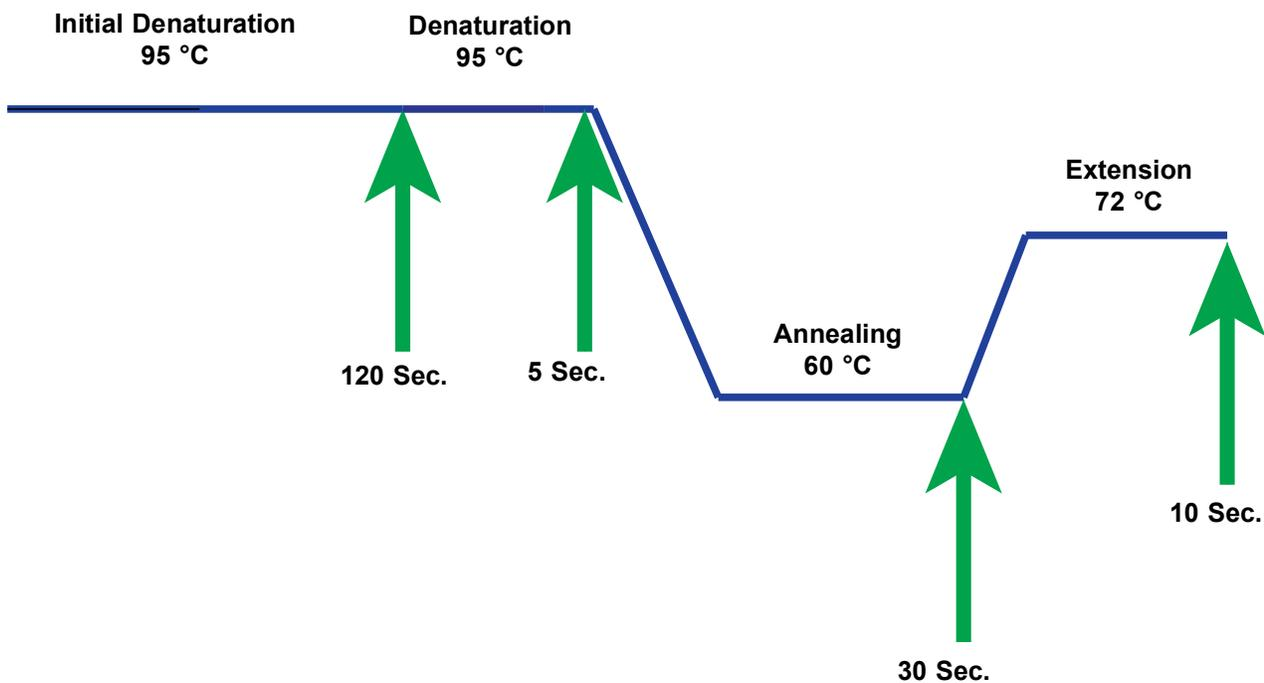

Figure 3-1. Example PCR Cycle Diagram for I-CORE Module Heating and Fan Cooling (Temperature Durations not to Scale)
5. Starts the RT-PCR (if applicable) and PCR cycles and real-time detection (see Figure 3-1).
The PCR cycle diagrammed in Figure 3-1 indicates 40 cycles performed by the I-CORE module. The denaturation temperature is 95 °C; the annealing temperature is 60 °C; and, the extension temperature is 72 °C. Each of these temperatures must be held by the module for a specific duration, as indicated in Figure 3-1. The initial denaturation takes place for 120 seconds for one cycle. The denaturation (5 seconds), annealing (30 seconds) and extension (10 seconds) steps cycle consecutively forty times before the polymerase chain reaction is finally completed.